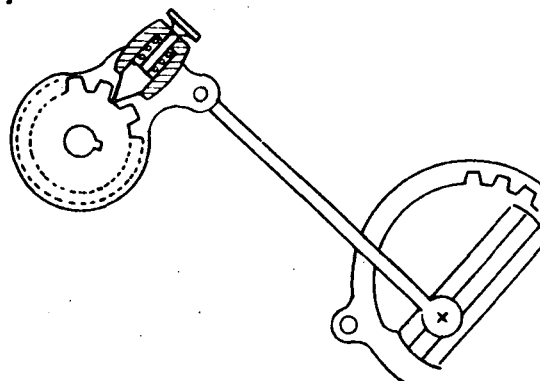

Fig. 11
- f) Engage the automatic feed (Fig. 11) and machine the surface.